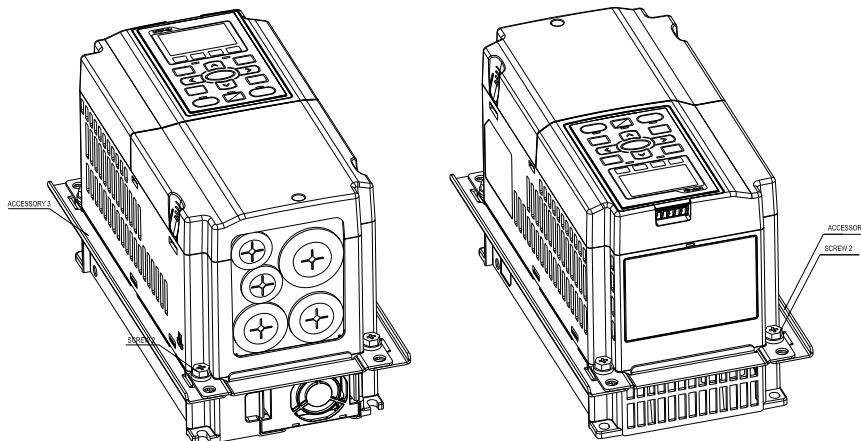

Figure 3
3. Install accessory 2&3 by fastening 2 of the screw 2(M6) (figure 3). Screw torque: 25~30 kg-cm / [21.7~26 lb-in.] / [2.5~2.9 Nm]